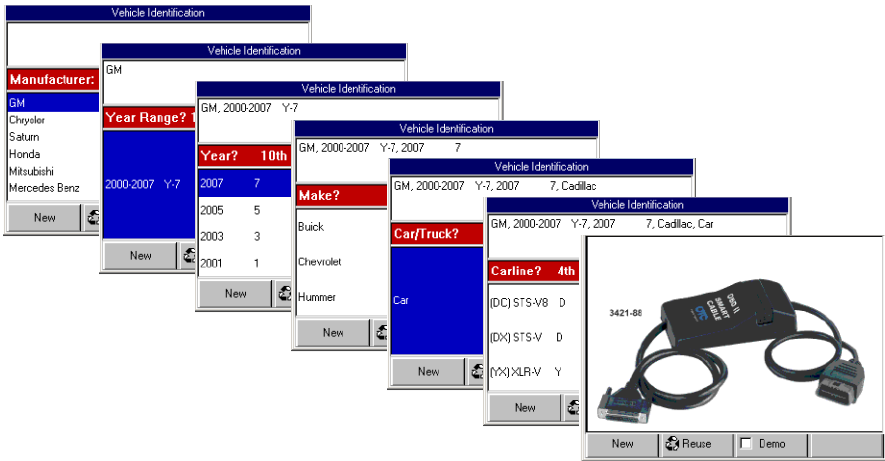

Figure 11: Series of Vehicle Identification Screens
**4** With the Required Cables screen displayed on the scan tool (Figure 11), continue with **Step 2: Connect the Cable** on page 11.